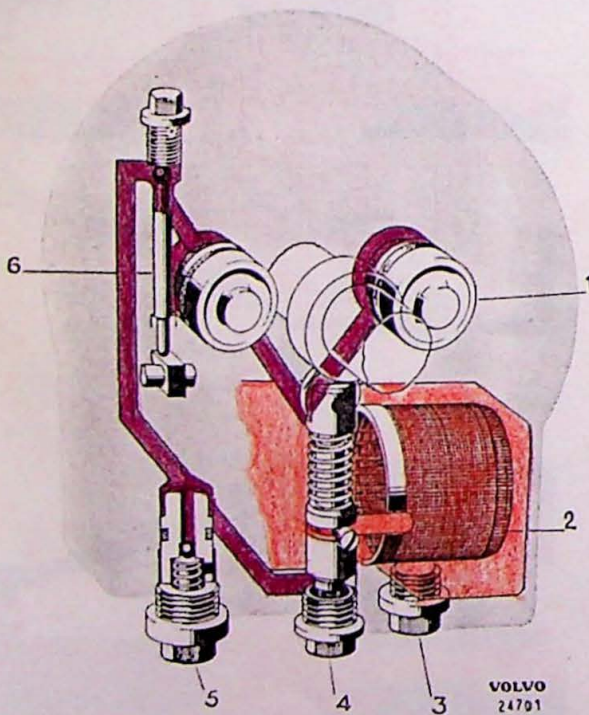
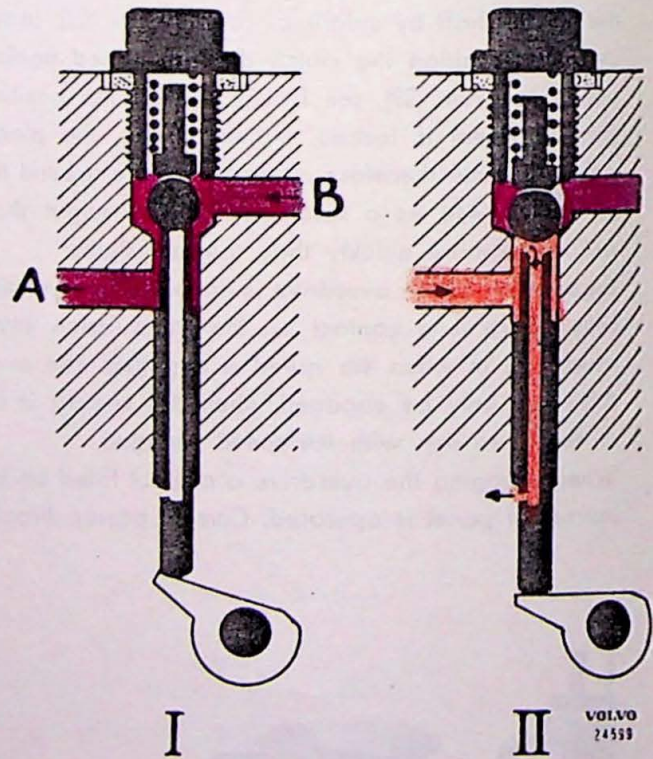

Fig. 3-35. Hydraulic system
Fig. 3-36. Control valve
There is a plunger type pump in the overdrive (4, Fig. 3-35) which is driven by a cam on the mainshaft. When the control valve (6) opens (position I, Fig. 3-36), oil under pressure from the pump flows via the valve to two cylinders (1). The plungers in the cylinders then press the clutch disk forwards to make contact with the brake drum. When the overdrive is disengaged, the control valve shuts off the connection between the pump and cylinders. The clutch disk is then pressed rearwards by the springs. The oil in the cylinders flows out through the hollow valve rod into the overdrive housing, see II, Fig. 3-36.
The oil strainer should be cleaned at every oil change. First drain off the oil by removing the plug (3, Fig. 3-35. Marked "Drain") under the oil strainer. Cleaning should then be done as follows:
5. The pump and pump valve are fitted in the reverse order to removing. Check that the gasket for the plug (4, Fig. 3-35) is intact. Fill up with oil.